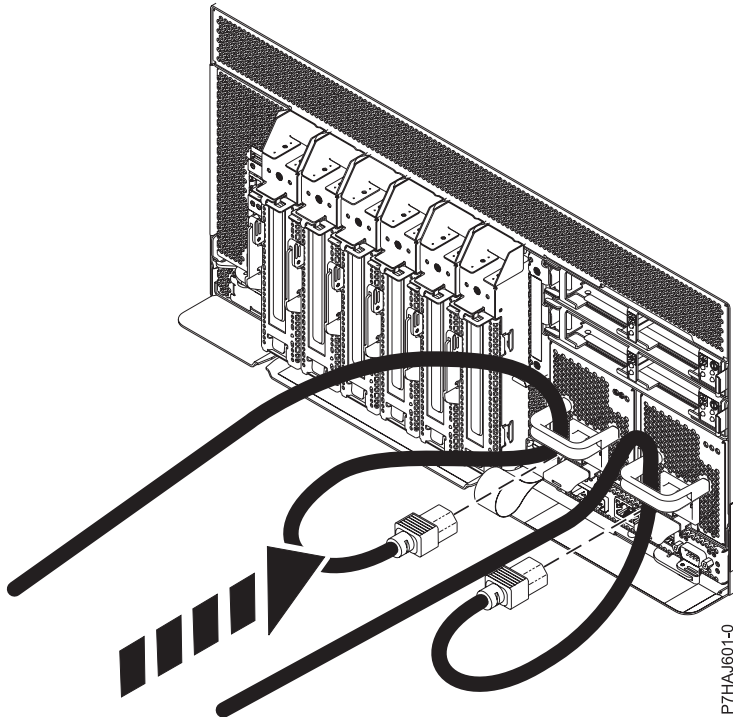

Figure 6. Replacing power cords
- b. Connect all power cords to the unit you are servicing. See Figure 6.